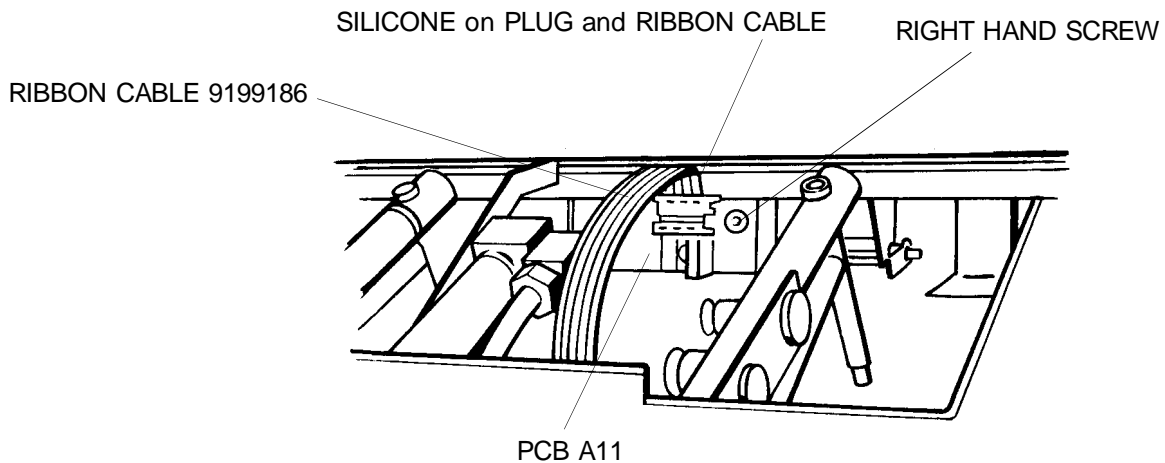

figure 2
- 5.** Plug in new RIBBON CABLE PN 9199186 on PCBA11 as shown on figure 2.
- 6.** Remove right hand SCREW on PCBA11. See figure 2.